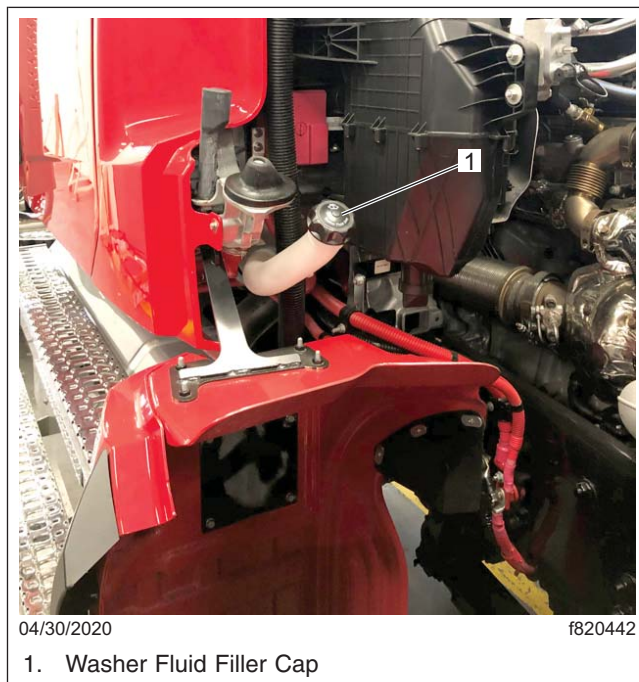

Fig. 21.12, Windshield Washer Reservoir
1. Check the windshield washer reservoir fluid level. The reservoir is usually located near the right-hand frame rail. See Fig. 21.12.